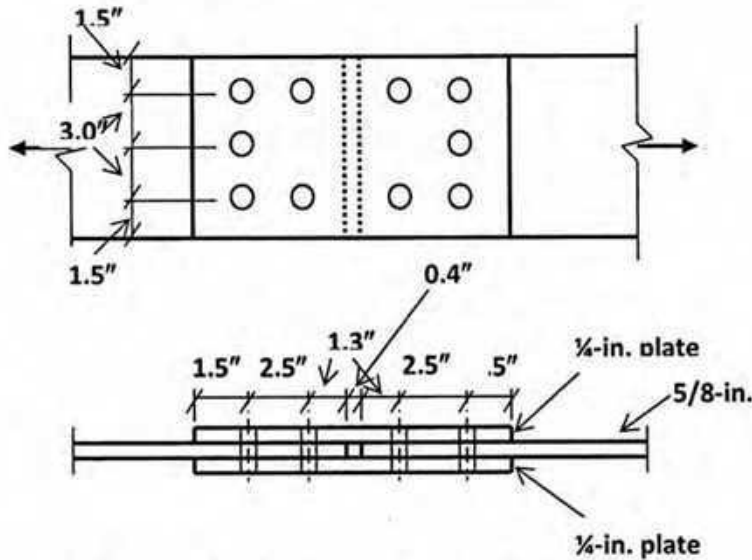

Fig. 2
2. Calculate the probable net areas for the tension splice shown in Fig.2 and hence find the net area that governs the splice design. All material is A36 steel. Bolts are 3/4-in. A325 (in standard holes) in a bearing type connection with threads excluded from shear planes. Also determine the allowable load in tension based on area of the plates only (capacity in shear, bearing of bolts or block shear is not required) using AISC/ASD method. Given $U=1$.